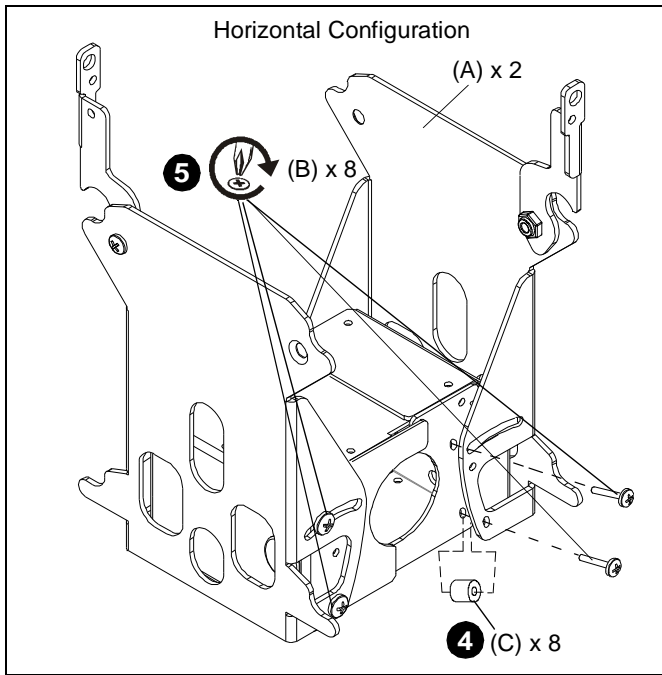

Figure 3
4. Insert 1/2" x .194 x 1/2" nylon spacers (C). (See Figure 3)
5. Secure to FDP (A) using 10-24 x 1" Phillips head screws (B). (See Figure 3)